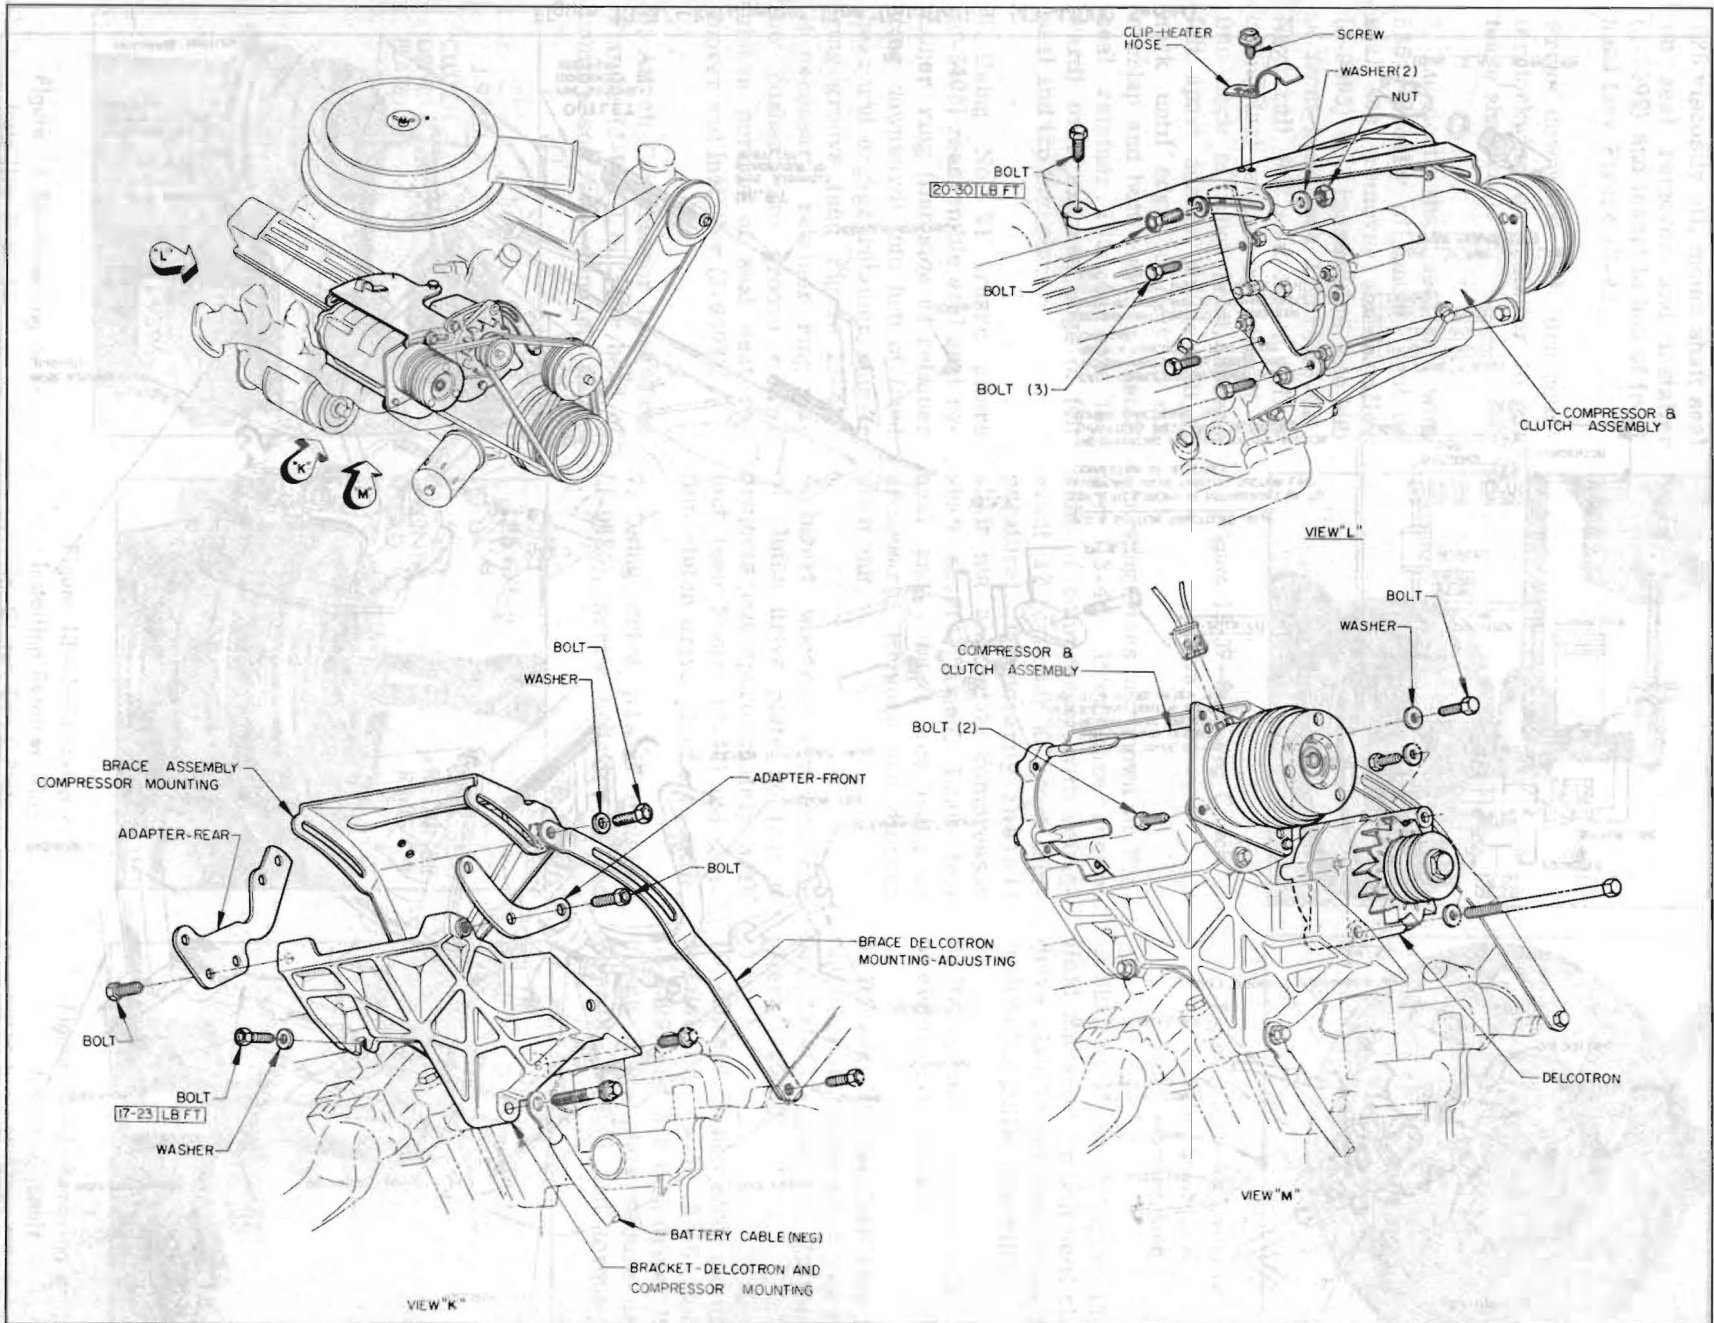

Figure 13-36—Compressor Installation (Gran Sport 400)
4. Remove bolts in slots of compressor mounting brace (see Figure 13-36) and tilt compressor inboard. Remove belt from compressor pulley.
1. Install reverse of removal and use new "O" rings. Torque bolts as specified in Figure 13-36.